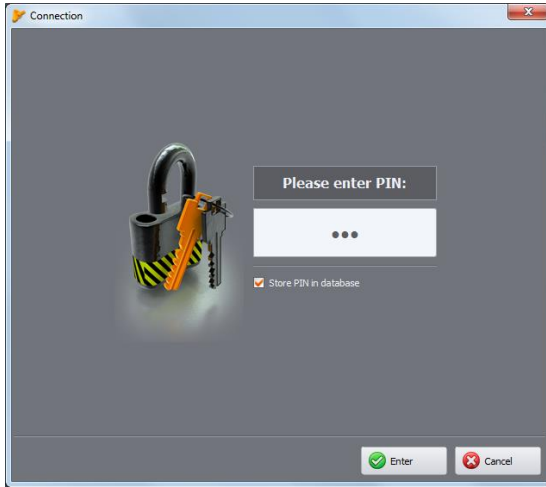

Fig. 7. PIN code verification.
- *The serial number may be entered into the database manually (section 5) or after connecting the analyzer via USB, entering correct PIN code and selecting **STORE PIN IN DATABASE** option (see Fig. 7). Then the analyzer is added to the database of the analyzers (doesn't apply to PQM-707).*
If automatic log-in is unsuccessful, the window shown in Fig. 7 is displayed again.